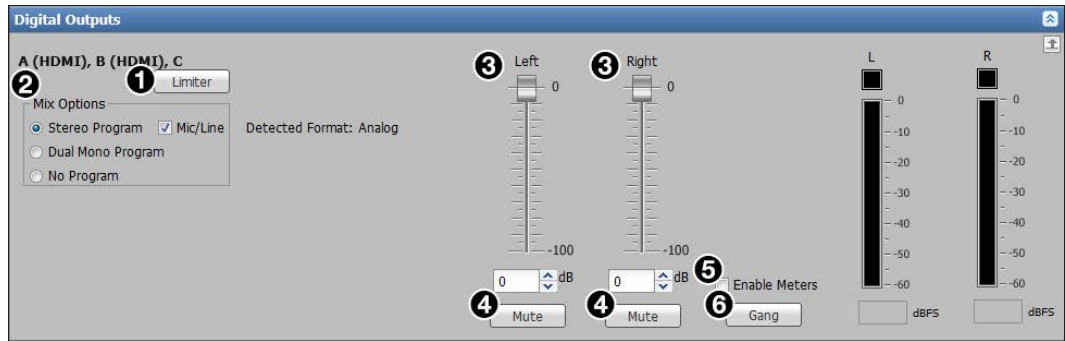

Figure 77. Digital Audio Output Section (IN1608 Series)
2. If desired, deselect the **Mic/Line** checkbox (see **figure 77, 2** on the previous page) to not include the mic/line inputs in the amplified output (this is selected by default).
2. If desired, deselect the **Mic/Line** checkbox in the **Mix Options** panel (see **figure 77, 2** on the previous page) to not include the mic/line inputs in the amplified output (this is selected by default).
2. If desired, click the **Mic/Line** checkbox in the **Mix Options** panel (see **figure 77, 2**, on the previous page) to include the mic/line inputs in the output.